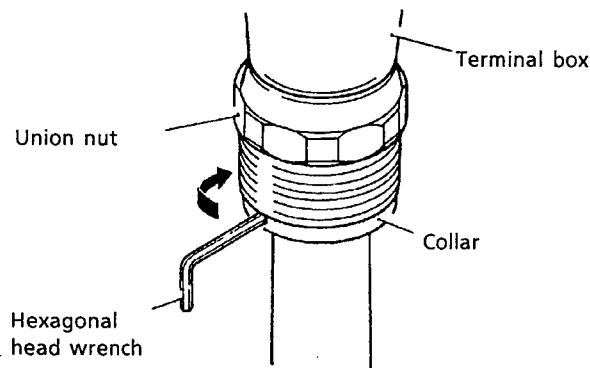

Figure 9.1 How to Remove Electrode Assembly
The electrode assembly of the SC210G low/medium-range conductivity detector is provided with a lead wire, which is connected to the dedicated cable through the terminal box. If the SC210G detector is used, remove the lead wires (4) of the electrode assembly connected to the terminal box. Separate the terminal box from the electrode assembly. The electrode assembly is fixed into the terminal box. Insert a hexagonal head wrench into the two holes ($\varnothing 3.2$ mm) on the collar in the neighborhood of the union nut and turn it counterclockwise to remove it (see Figure 9.1).